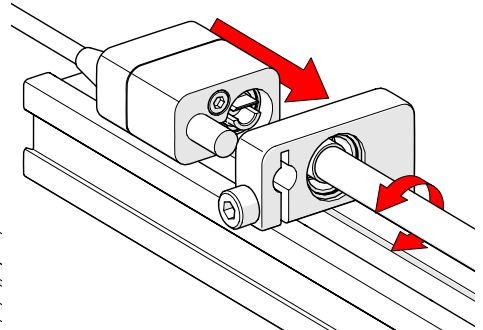

Fig. 57 - Align and mount post
2. Insert the encoder post in the index encoder support bracket while aligning the leadscrew shaft with the encoder socket (Fig. 57).